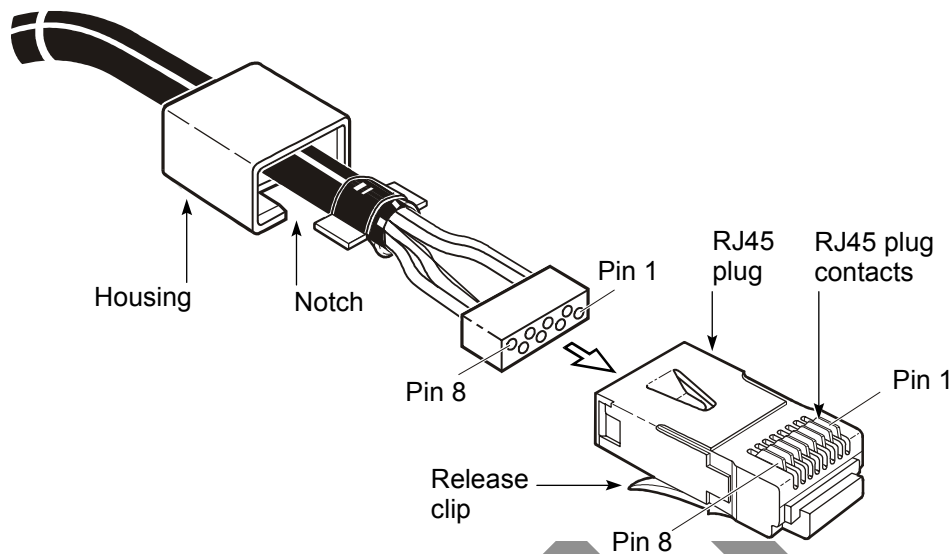

Figure 44 – Inserting the management bar into the RJ45 connector
12. Insert the management bar (with conductors and ferrule) into the RJ45 plug; see Figure 44. When the management bar stops, continue to push the conductors until they can be seen under the plug contacts. Inspect the conductors by looking through the transparent plug to ensure that all conductors are pushed completely under the contacts, and are ready for termination.
14. Slide the RJ45 housing over the plug, and snap the housing into position. When positioned correctly, the notch in the housing clears the RJ45 release clip on the bottom of the plug; see Figure 44.